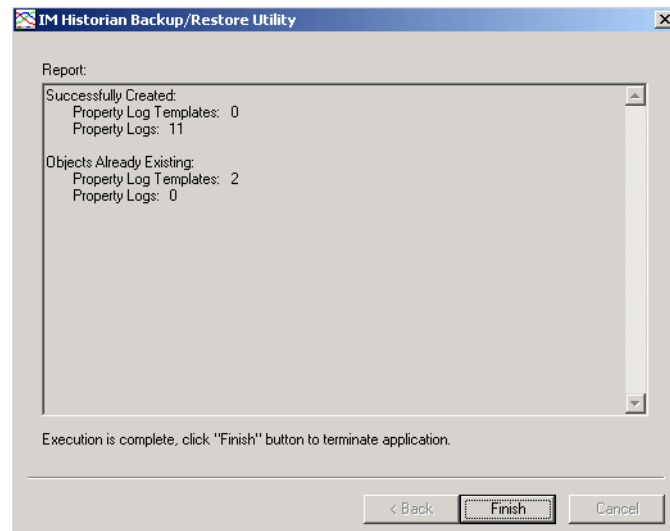

Figure 313. Finish Synchronization
7. When the execution complete message is displayed, Figure 313, click **Finish**.